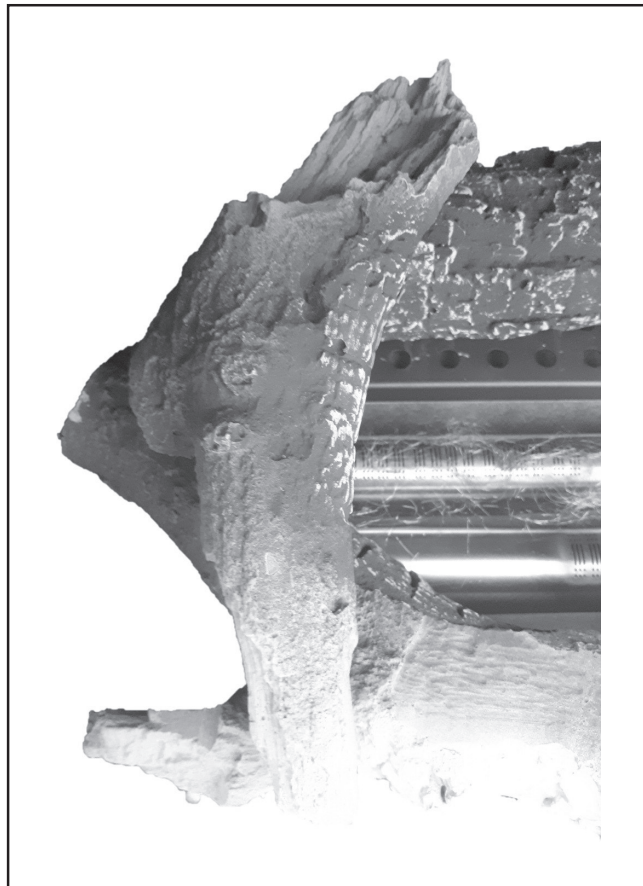

Fig. 4
4. Place Log '4' so that it is resting on Log '3' and to its rear on Log '1' as shown in fig.4.